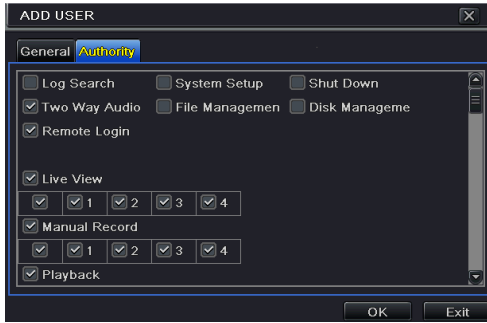

Fig 4-29 Add User-Authority
Step 5: Select Authority tab and then assign the operation rights for particular user. Refer to Fig 4-29.